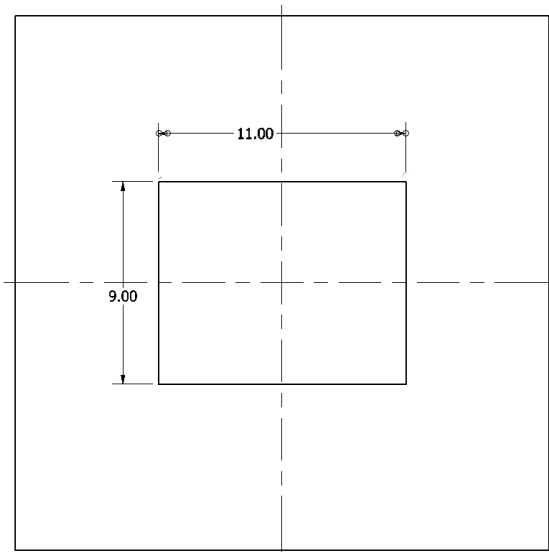

Figure 1 - Ceiling Tile Cutout.
Step 1 – Remove the ceiling tile and cut an 11" x 9" opening. Be sure to center the opening along the centerlines of the tile. (Figure 1).